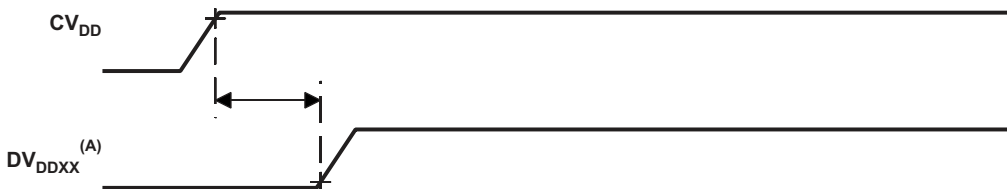

**Figure 6-4. DSP Host-Boot Mode Core Supply Timings**
If the DSP boot mode is configured as Host-Boot, where the ARM boots the DSP, the two core supplies may be ramped simultaneously or powered up separately. When powered up separately, the  $CV_{DDDSP}$  supply *must not* be ramped prior to the  $CV_{DD}$  supply. The  $CV_{DDDSP}$  supply *must* be powered up before the shorting switch is closed (enabled). Prior to powering up the  $CV_{DDDSP}$  supply, it should be left floating and not driven to ground. Table 6-1 and Figure 6-4 describe the power-on sequence timing requirements for DSP Host-Boot mode.
**Table 6-1. Core Supply Power-On Timing Requirements for DSP Host-Boot Mode (see Figure 6-4)**